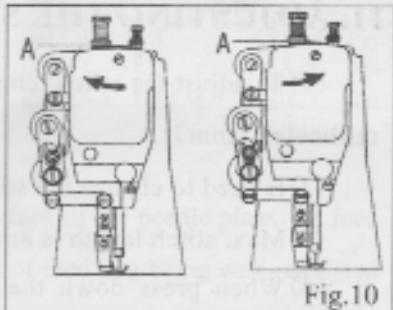

Fig.10
8. ADJUSTING THE PRESSURE OF PRESSER FOOT (Fig.10)
First loosen Lock Nut(A).For heavy materials,turn the pressure regulating thumb screw as shown in Fig. 10 to increase the pressure,while for light materials,turn the pressure regulating thumb screw as shown in Fig. 10 to decrease the pressure.Then tighten Lock Nut(A).